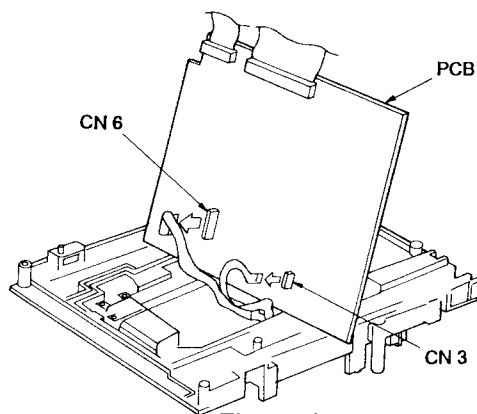

Figure 24
- (8) Gradually raise the PCB and then disconnect two connectors (CN 3, CN 6) as shown in Figure 24.
- (9) Remove the PCB.